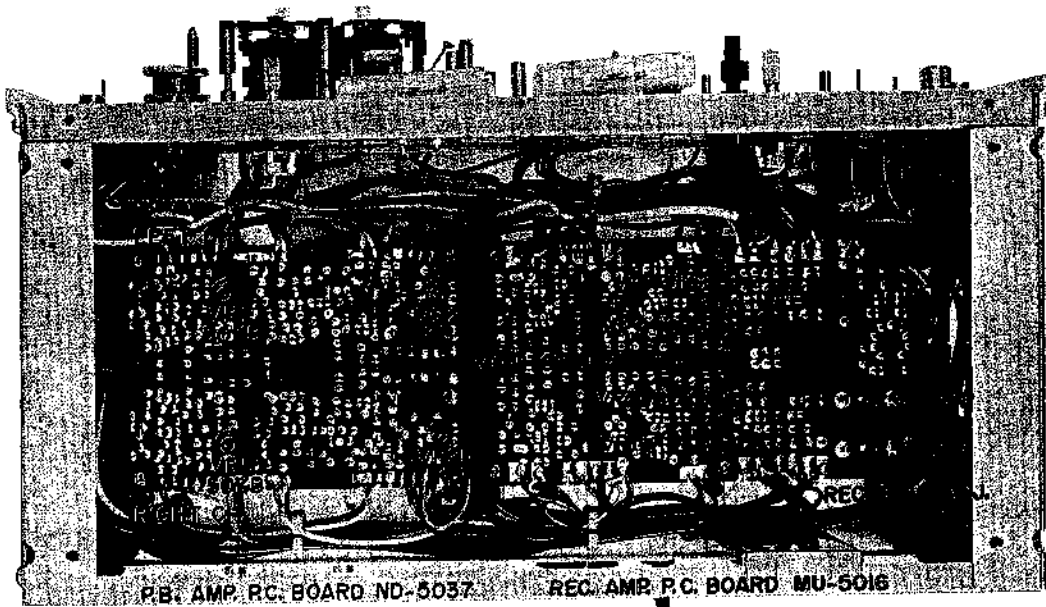

Fig. 19
- 4) Adjust Playback Amp. P.C. Board semi-fixed resistors VR1 50 k Ω (left ch.), and VR1b 50 k Ω (right ch.) shown in Fig. 19 to obtain a high sensitivity V.T.V.M. indication of 4 dB (1.228V) line output level on both channels.
After playback level adjustments has been completed, with the playback level of both channels at 4 dB, adjust P.B. Amp. P.C. Board semi-fixed resistors VR2 1 k Ω (left ch.) and VR2b 1 k Ω (right ch.) shown in Fig. 19 to obtain a left/right VU meter indication of 0 VU.
- 5) Adjust Recording Amp. P.C. Board semi-fixed resistors VR2 10 k Ω (left ch.) and VR2b 10 k Ω (right ch.) shown in Fig. 19 to obtain a high sensitivity V.T.V.M. indication of 4 dB (1.228V) line output level on both channels.
- 7) Adjust Recording Amp. P.C. Board semi-fixed resistors VR1 5 k Ω (left ch.) and VR1b 5 k Ω (right ch.) shown in Fig. 19 to obtain a high sensitivity V.T.V.M. indication of 4 dB (1.228V) line output level on both channels.
- 6) Adjust Recording Amp. P.C. Board Trimmer Condenser C30 80p max (left ch.) and C31 80p max (right ch.) shown in Fig. 19 until the same high sensitivity V.T.V.M. indication level is obtained on both the left and right channel at the two frequencies described in Items 5-4) and 5-5) above.